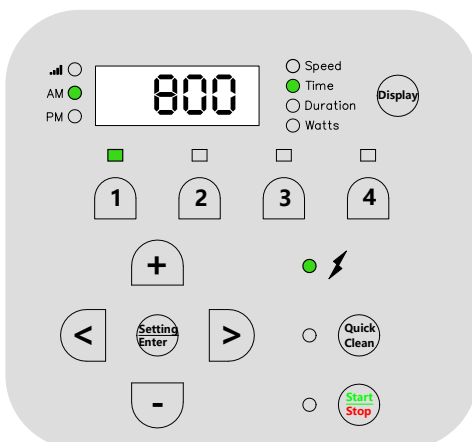

Figure 10
4. Press “1”. The SPEED 1 start time will display. The “Time” parameter LED will begin to blink. See **Figure 10**.